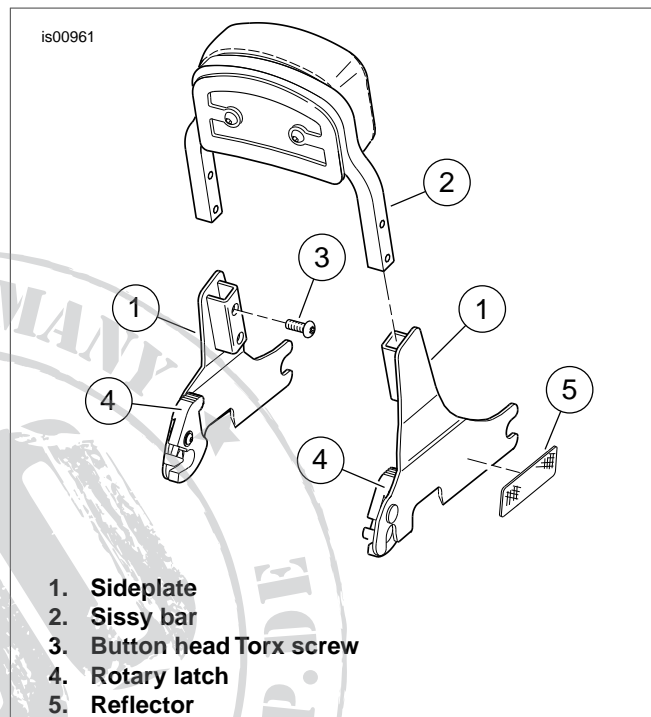

Figure 1. Detachable Sissybar Sideplate Assembly
1. See Figure 1. Insert the sissy bar (2) into the detachable sideplates (1) and secure with four button head Torx® screws (3) from this kit. Apply Loctite® 262 to the screw threads before installation. Tighten the screws to 96-120 in-lbs (11-14 Nm).